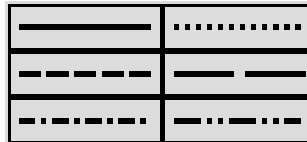

Figure 8-10. The line pattern area of the Quick Edit dialog.
8.4.2.3. Choosing a Line Pattern. Set line patterns for XY-line plots using the Line Ptrn drop-down, or the line pattern area of the Quick Edit dialog, shown in Figure 8-10. The choices
3. In the line pattern area of the dialog (Figure 8-10), click on the desired pattern.